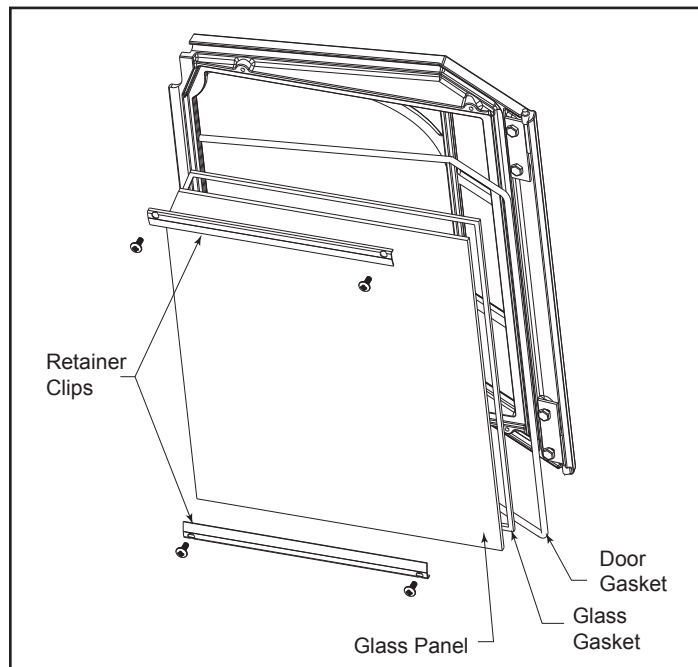

Figure 14 - Replace glass.
- Open the door and loosen the four retaining clip screws that hold the glass to the door. Swing the clips out of the way. Tilt the glass away from the door frame and lift up. (Figure 14) Wear gloves and use caution when handling broken glass.